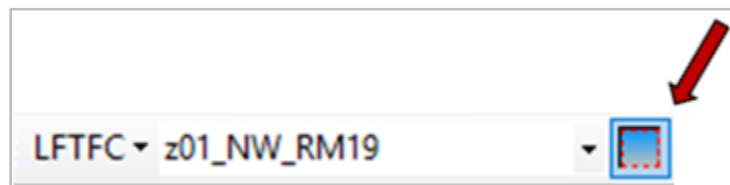

Figure 6-5. Use the Add Management Icon to create a MU.
- Click the **Add Management Unit** icon on the LFTFC toolbar (Figure 6-5) to define a Management Unit.